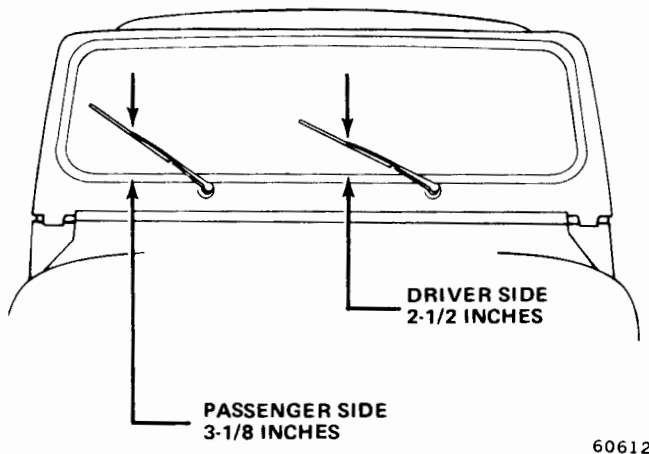

Fig. 17-11 Wiper Arm Park Position—CJ Models
(2) Push wiper arm over pivot shaft. Be sure pivot shaft is in park position and wiper arm is positioned as shown in figure 17-11.